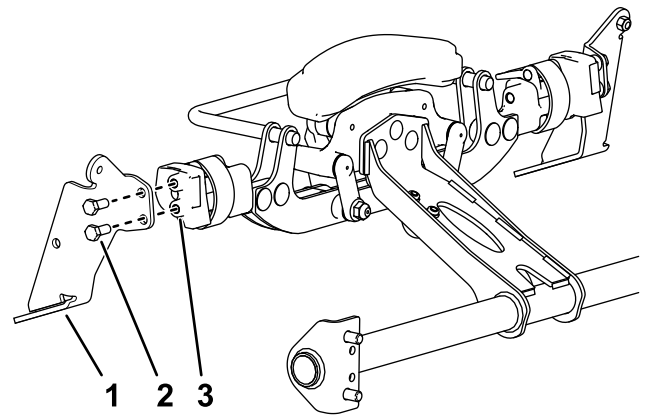

Figure 4
2. Install a brush bracket to each side of the cutting unit using 2 bolts (5/16 x 3/4 inch) as shown in Figure 4.